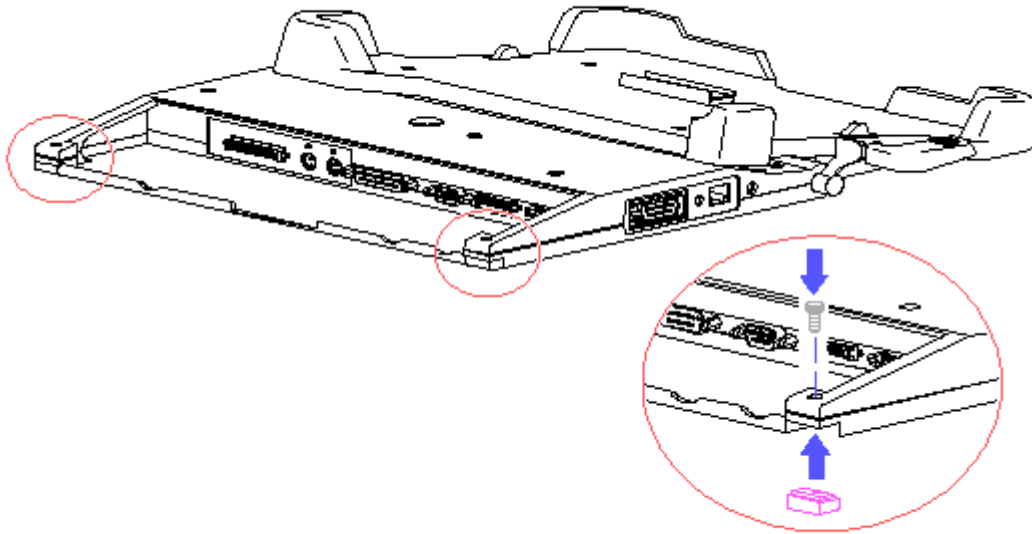

Figure 4-3. Rear Foot Replacement
3. Install a replacement foot by sliding it into place and installing the rear cover screw (Figure 4-3).